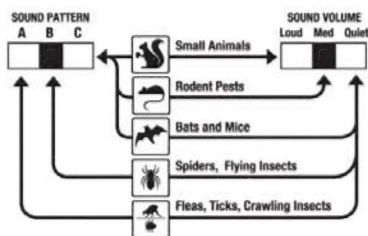

Fig. 1 (Sound Settings Diagram)
2. Refer to the diagram on the back of the unit (**FIG. 1**) to select the **SOUND VOLUME** switch position and the **SOUND PATTERN** switch position to customize the desired pest specific settings.